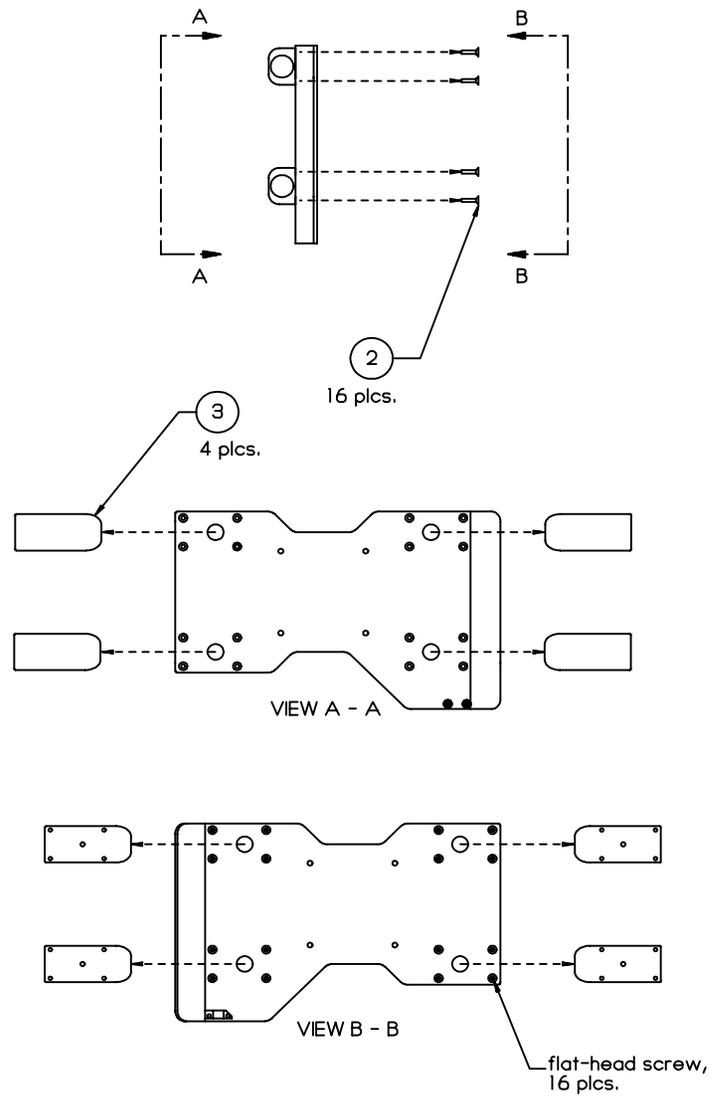

Figure 4
Note: The Monitor Handle mounts can be removed with the handles still attached. If the Handle Mounts need to be separate from the handles, then remove the handles as outlined in the previous section. Figure 4 shows the handles removed.
2. From the front surface of the Monitor Mounting Plate, remove the flat-head screws that secure each Handle Mount to the Monitor Mounting Plate, 4 screws for each Handle Mount, 16 screws total. See Figure 4 (next page).
3. Remove the Handle Mounts from the Monitor Mounting Plate. See Figure 4 (next page).